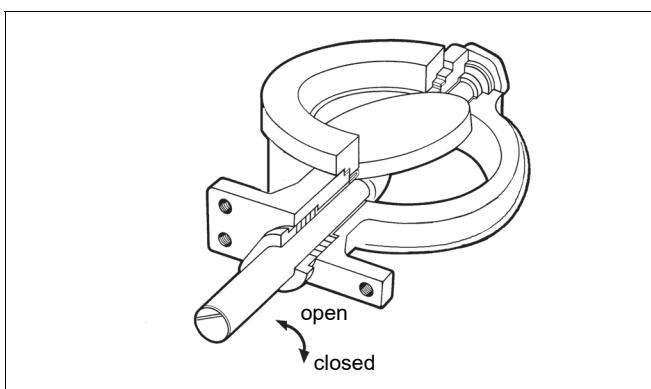

Fig. 12 Open and closed positions of the valve
The marking line parallel to the disc on the valve shaft head shows roughly the closed position of the disc (see Fig. 12)
- Check the position between the seat ring and the disc. The valve closes clockwise (see Fig. 12).
- Install the gasket (18) and the blind flange (10). Tighten the screws (26) lightly.
- Then tighten the screws (26) crosswise and evenly. First to 50 % of recommended torque, then to 100 %. Recommended torque values for screws are listed in Table 8.
- Install the body seal (19) and the clamp ring (2). See details in Section 5.5.
- Check the contact line between the seat ring and the disc (see Fig. 12).